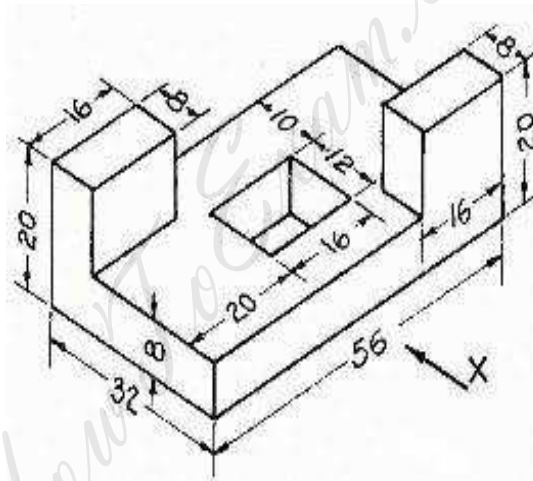

Figure 8
8. Draw the three views of the object shown in figure 8. (all dimensions are in mm). [16]